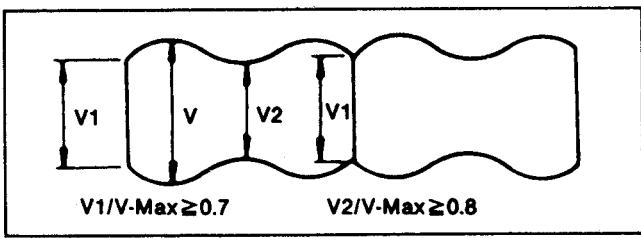

Fig. T7
- (1) Set the Tracking Control to the fixed position by pushing both of the Tracking Control Up/Down switches simultaneously. Connect the oscilloscope to TP8002.
- (2) Playback the monoscope portion of the alignment tape and confirm that RF envelope appears as shown Fig. T7